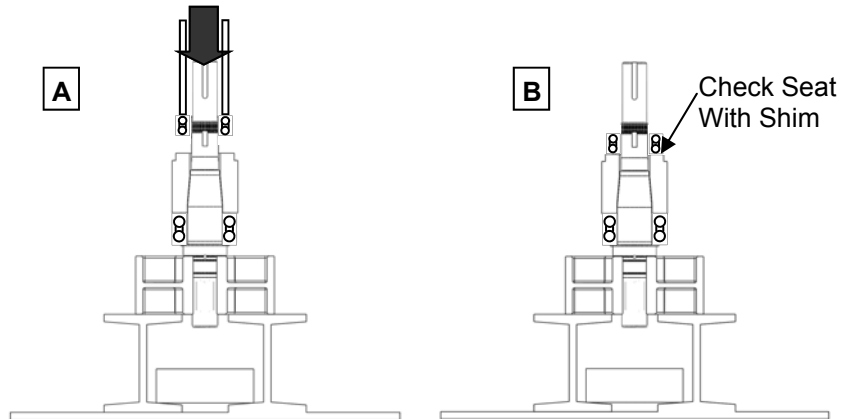

Figure 50: Pressing Rear Bearing onto Shaft
2) Apply a light coat of lubricant on the shaft. Open the new rear bearing and place it over the shaft above the bearing spacer (Figure 50, A). Using a sleeve that rests on the bearing's inner race and over the shaft, press the bearing on until it seats against the bearing spacer. For the QL40 series it is important to keep all assemblies together as they come packaged. Make sure the bearing is rested on the bearing spacer using a shim (Figure 50, B).